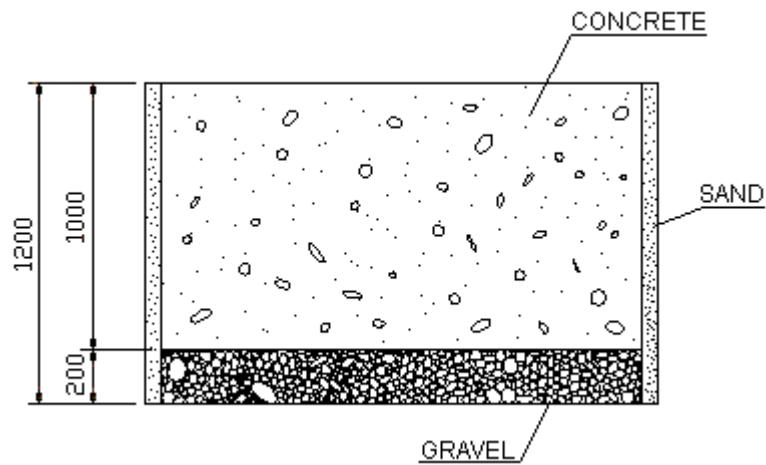

Fig. 2.5
4. A proper foundation is required to build before 10 days machine arrival, and please refer (Fig 2-5) as reference.